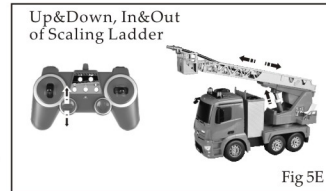

Fig 5E
- After starting the car, to press the key of Up&Down of Scaling Ladder, the scaling ladder of the fire truck would raise up (come down) slowly; at the same time, the second condole would hand over (draw back) slowly with a series of mechanical sound, flashing lights at the top of cab, lighting up of the front and back lights (Fig 5E).